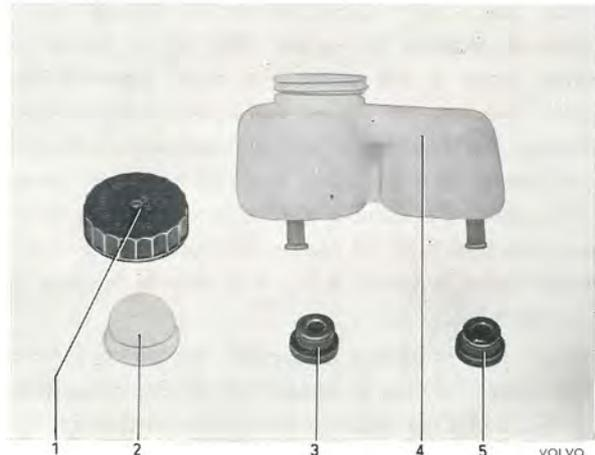
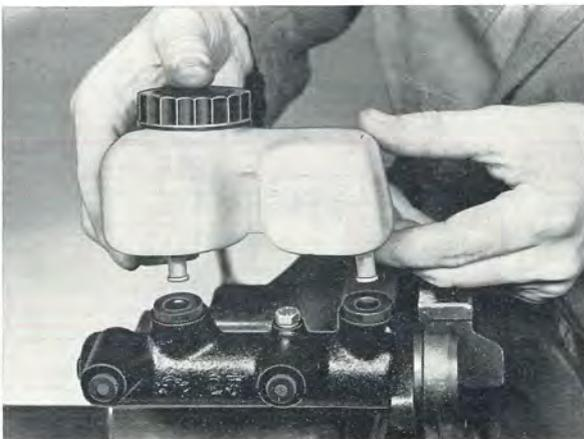
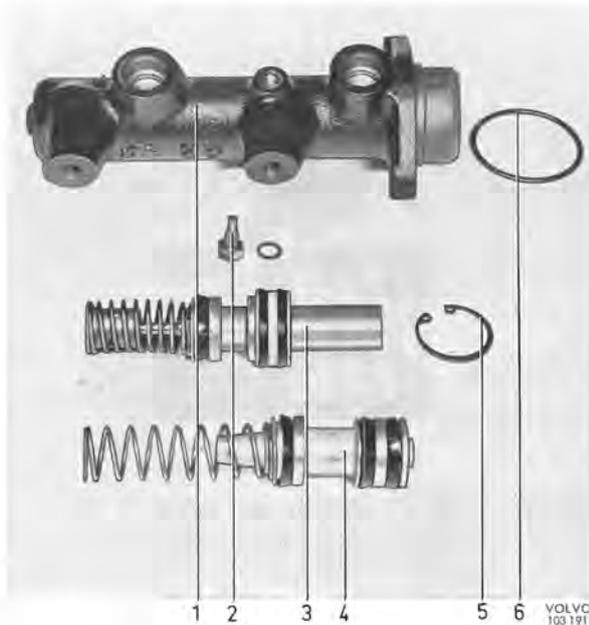

Fig. 5-46. Container parts
Fig. 5-45. Removing container
Fig. 5-48. Master cylinder disassembled
1. Fix the flange of the master cylinder firmly in a vice, see Fig. 5-45.
2. Place both hands under the container and pull it up from the rubber seals. Remove the filler cap and strainer from the container and also the rubber seals from the cylinder, see Fig. 5-46.
If wear on the cylinder or secondary piston is suspected, the diameter should be measured with a micrometer or indicator. The cylinder bore must not exceed 23.92 mm (0.942") and the diameter of the piston may not be less than 23.66 mm (0.931"). Each time reconditioning is carried out, replace the primary piston (3, Fig. 5-48) and the secondary piston (4, Fig. 5-48) complete as well as the stop screw (2) with washer and circlip (5), also the sealing ring (6). Moreover, the rubber seals (Fig. 5-46) for the container should be replaced.
4. Dip the piston and the seals in brake fluid and fit the piston in the cylinder, see Fig. 5-52. Press in the piston and fit the circlip (5, Fig. 5-48).
5. Check that the hole for the stop screw is clear and fit the screw (2, Fig. 5-48) with a new sealing washer. The tightening torque is 5–8 Nm (3.6–5.7 lbft).
- Fit the rubber seals (3 and 5, Fig. 5-46). Fit the brake fluid container, see Fig. 5-45. Fill the container with brake fluid and bleed the cylinder. Place plastic plugs in the cylinder. Check to make sure that the vent-hole in the cap (1) is open and fit the strainer (2) and cap in position.